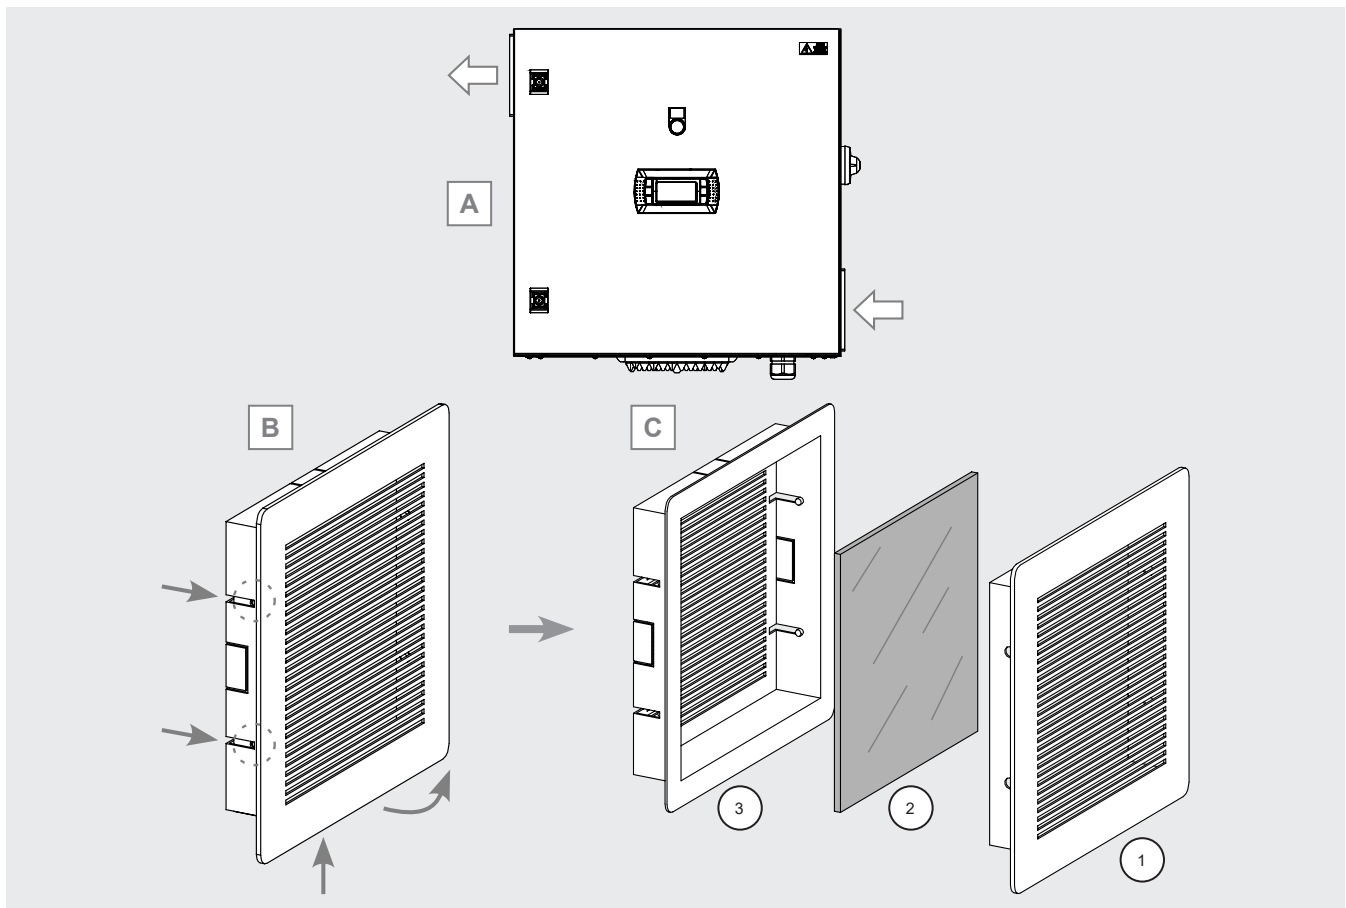

Figure 37
- locate the installation location of the air grilles. The location depends on the type of switchboard installed. Check the documentation provided with the switchboard. As an example, the air inlet grille is on the lower right side, the air outlet grille is on the upper left side. See Figure 37 A.
- insert the tip of a slotted screwdriver into the notch in the lower profile of the grille (1) and lift gently. Be careful not to damage the seals. If necessary, gently pry up the side notches that secure the grille to the holder (3). See Figure 37 B and C.
- remove the grille (1) being careful not to drop the filters (2) located on the back. The filters may be different depending on the type of installation. Check the condition of the filters: replace them if necessary. See Figure 37 B and C.
- install the grille (1) and filter (2) again, taking care to secure (1) on the side notches of the holder (3). See Figure 37 B.